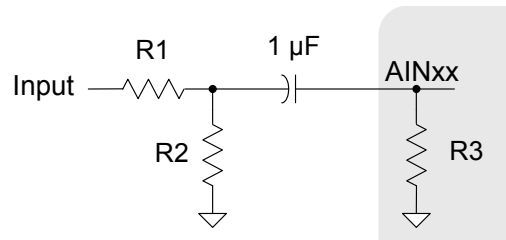
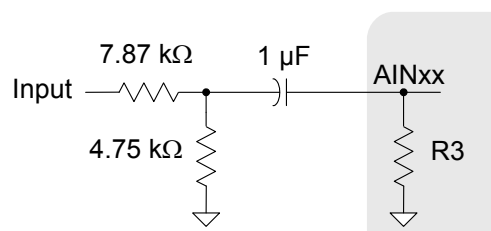

Figure 15. Analog Input Attenuation
Figure 16. Example Analog Input Attenuation
Three parameters determine the values of resistors R1 and R2 as shown in Figure 15: source impedance, attenuation, and input impedance. Table 2 shows the design equation used to determine these values.
- **Input Impedance:** Input impedance is the impedance from the signal source to the PGA analog input pins, including the PGA. The PGA’s input impedance (R3 in Figure 15, Table 2, and Figure 16) is given in the “Analog Input Characteristics” on page 14.
Figure 16 illustrates an example configuration with the PGA in-circuit using one 7.87 kΩ resistor for R1 and one 4.75 kΩ resistor for R2. Based on the discussion above, this circuit provides an optimal interface for both the PGA and the signal source. First, consumer equipment frequently requires an approximate input impedance of 10 kΩ, which the combination of the resistors provide. Second, this circuit will attenuate a typical line level voltage, 2 V_{rms}, to the full-scale input of the PGA, 0.7 V_{rms} when V_A = 2.5 V. Finally, at approximately 3 kΩ, the source impedance is within the allowable range of the PGA.